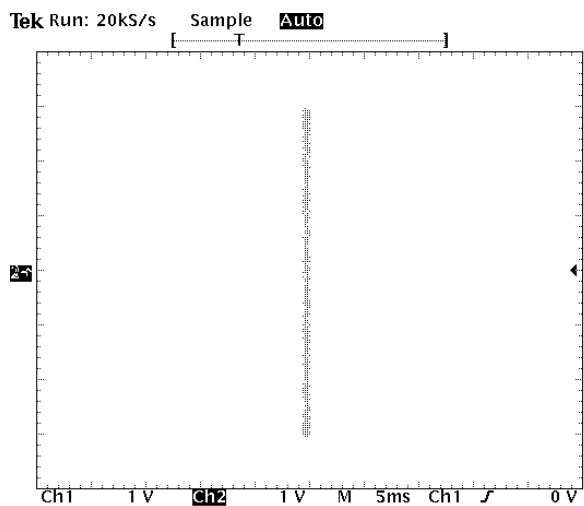

Figure 2-5: Typical short-circuit signature
5. Verify that a vertical line is now displayed on the oscilloscope screen similar to that shown in Figure 2-5. This is the short-circuit signature.